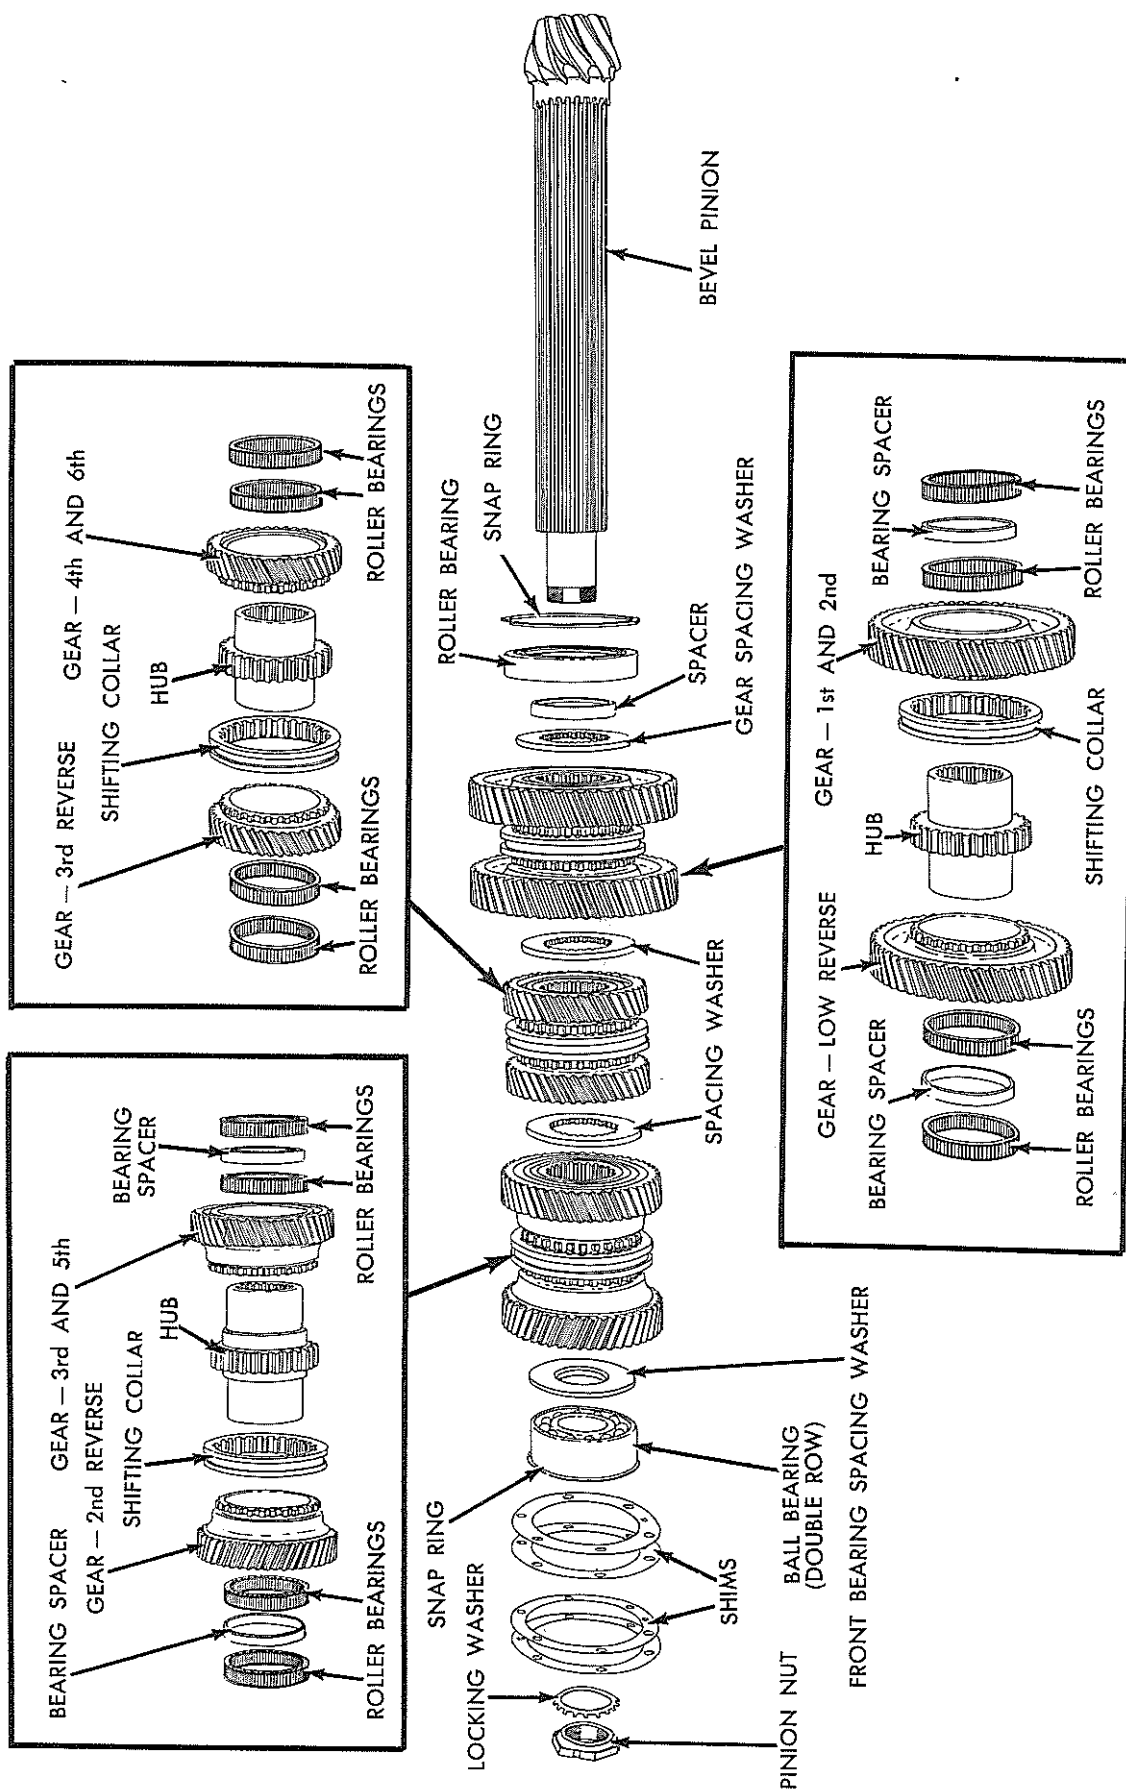

Fig. 7 — Bevel Pinion Shaft Details
- b. With the rear pinion shaft gear cluster in position in the transmission case as outlined in E, 1 above, refer to Fig. 7 and assemble the front gear cluster (2nd reverse gear—48 teeth, and 3rd & 5th speed gear—48 teeth), inside the case in the same manner in which the rear gear cluster was assembled. Note that the hub for the 2nd reverse and the 3rd & 5th speed gears used in the front gear cluster has two different width bearing shoulders. The hub must be installed with the long shoulder toward the rear of the case.
- d. Referring to Fig. 7, assemble the pinion shaft center gear cluster (consisting of two (2)—3rd reverse and 4th & 6th speed gears each having 41 teeth), on a bench, then place the assembled cluster in the transmission case between the front and rear gear clusters, allowing the gears of the center gear cluster to mesh with the mating gears on the top and intermediate shafts.